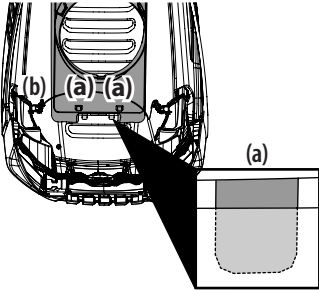

Figure 11
2. With the rear tabs installed, insert the front tabs (a) on the plenum (b) as shown in Figure 11.